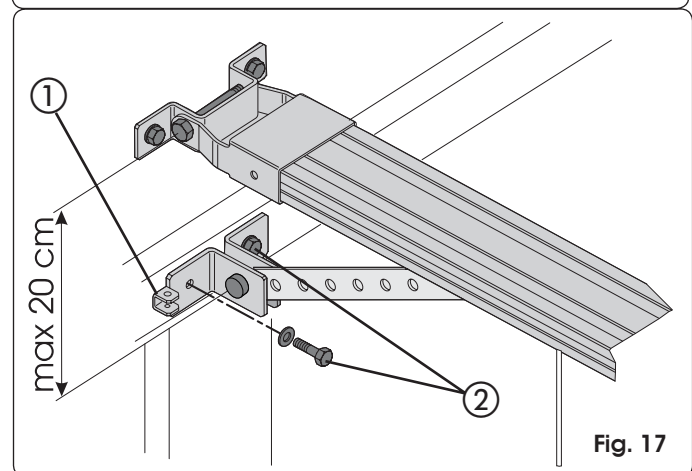
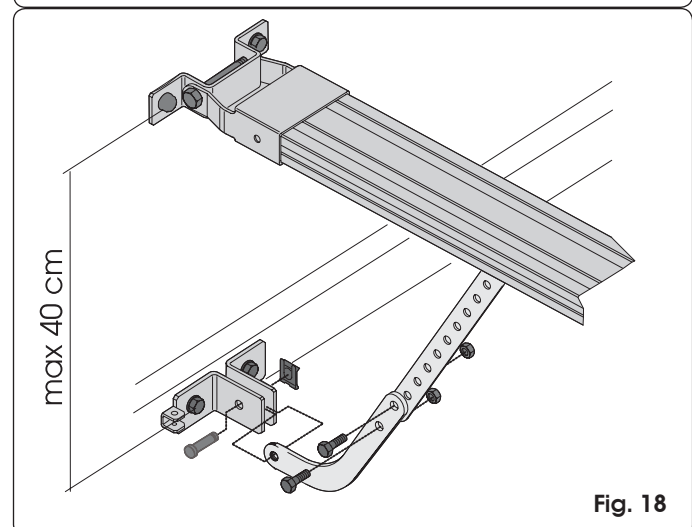

Fig. 17
Fig. 18
- Position the fitting on the door so that the through-element of the release cable is facing toward the left side of the door (ref. ① Fig. 17).
- 4) Make sure that the distance between the between-centres of the front fitting and the on-door fitting does not exceed 20 cm (Fig. 17). To ensure correct operation of the automated system, we advise you to avoid arm inclinations of over 30° compared to the sliding guide. If using the curved arm for sectional doors (optional), carry out the assembly with the straight arm of the carriage as shown in Fig. 18. To improve efficiency of the anti-crushing system, we advise you to secure the fitting on the sectional door as low as possible, without, however, exceeding the distance of 40 cm from the operator's front fitting.
- 5) Mark, drill and secure the fitting to the door, using the screws (ref. ② Fig. 17) **NOT** supplied.